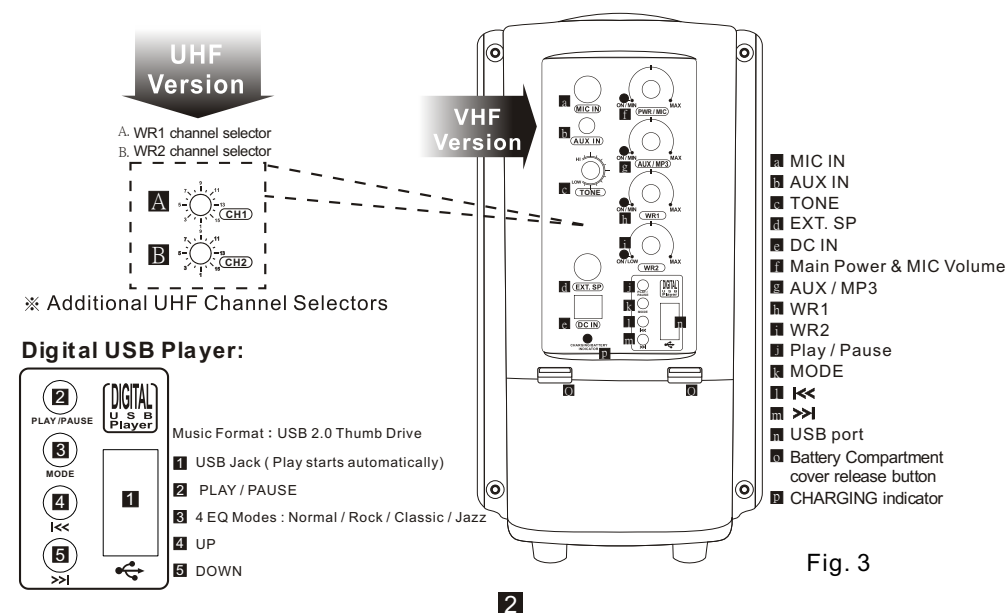

Fig. 3
3. SMART 300 with Digital USB player. (VHF / UHF) (Fig.3)